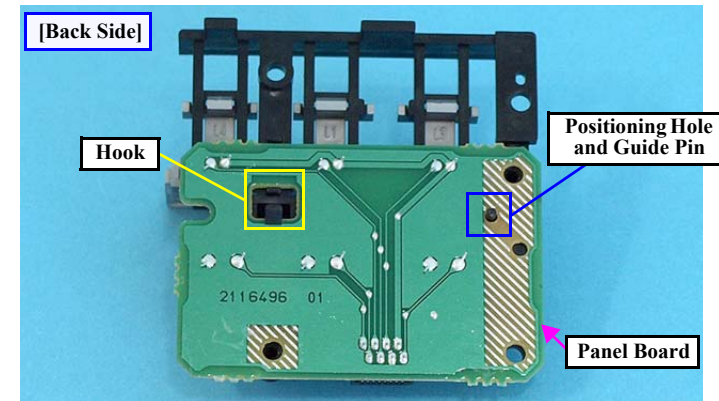

Figure 1-36. Removing the Panel Board / Buttons (3)
- When installing the Panel Board, match the guide pin with the positioning hole shown in Fig.1-36.